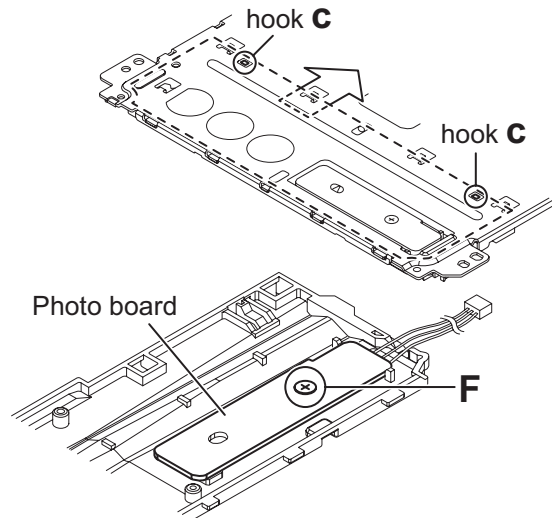

Fig.14
3.2.8 Removing the Photo board (See Fig.14)